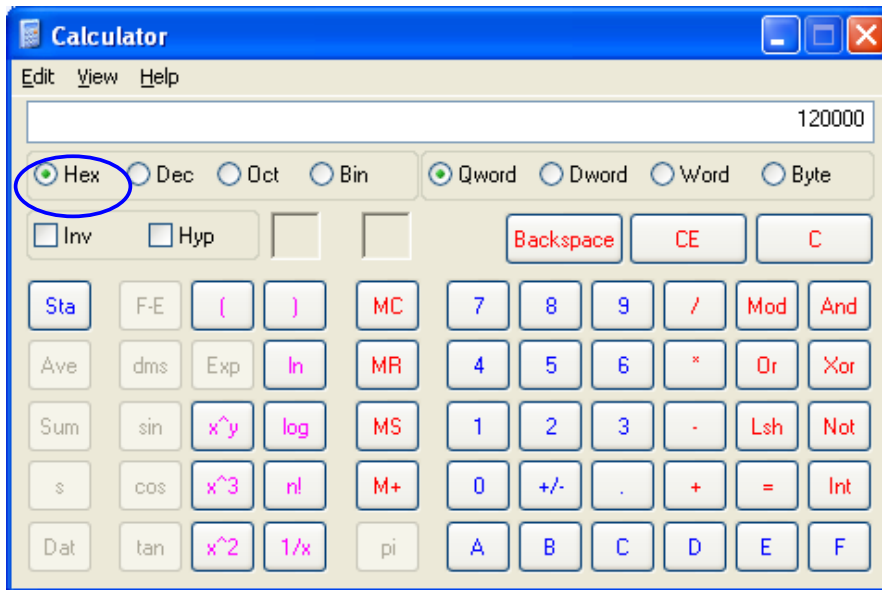

Figure 109
- The outcome in Hexadecimal will be 120000 (See Figure 109)